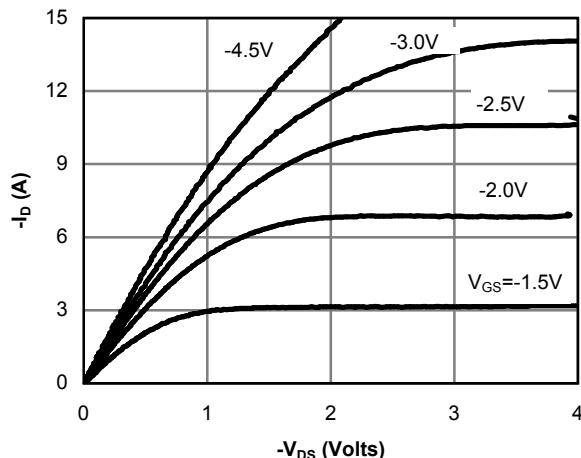

Figure 1: On-Region Characteristics
D. The static characteristics in Figures 1 to 6 are obtained using <300  $\mu\text{s}$  pulses, duty cycle 0.5% max.